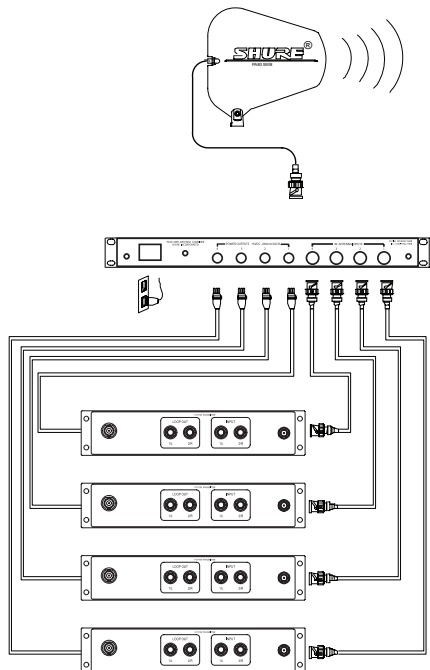

Figure 2
- Using the supplied BNC-BNC cables, connect the Antenna Output of each transmitter to the Antenna Inputs of the PA421SWB (See Figure 2).
- If you have a Shure PSM system that has the same power input connectors as the PA421SWB power outputs, such as the PSM400, connect the PSM system to the PA421SWB via the supplied power cables (see figure 2). This replaces the need for an external power supply.
NOTE: When the PA421SWB is powered on, the input signal indicators (1-4) on the front panel will illuminate if an active transmitter is connected to the corresponding input (1-4) on the back panel (Figure 2).